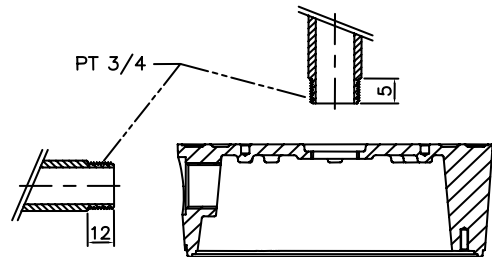

FIG. 5
2. When you use pipe, please note the standard size of pipe. (FIG.5)